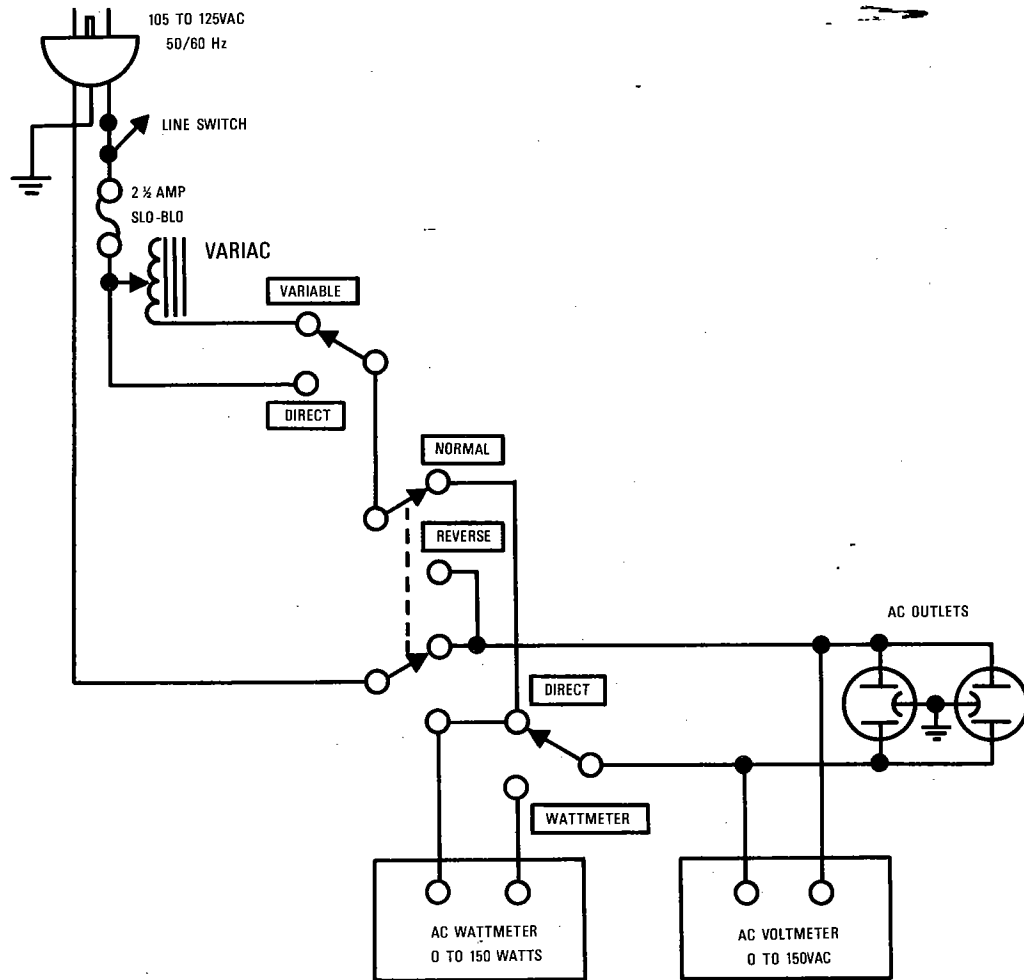
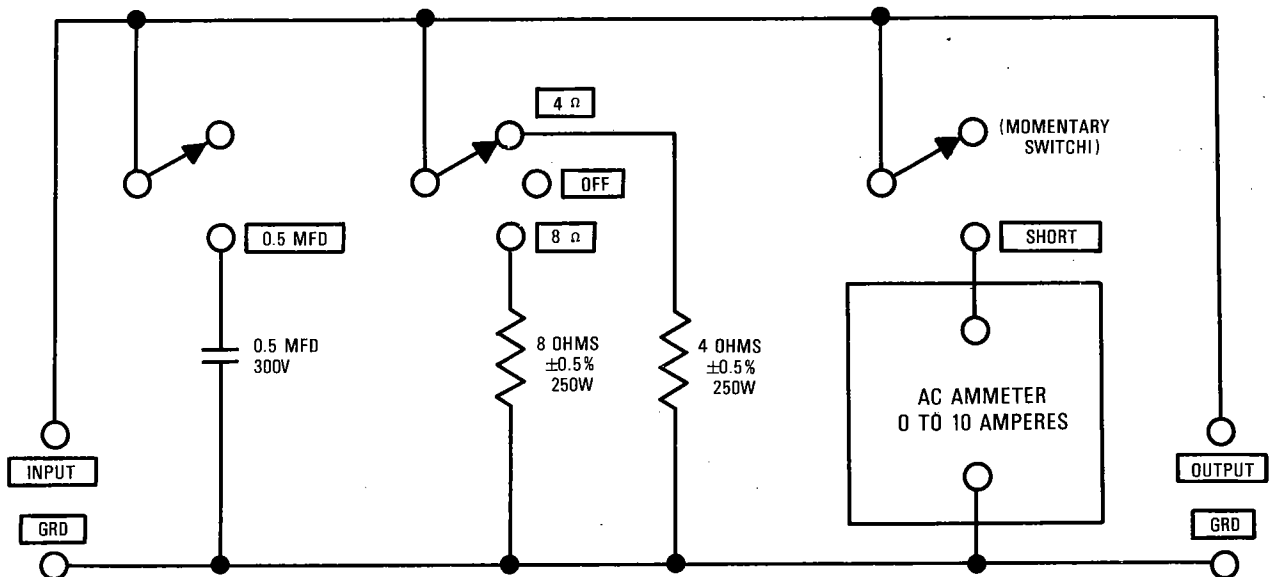

Figure 1. AC Power Control Box Simplified Schematic
Figure 2. Amplifier Output Load Box Simplified Schematic
1. Make the test setup shown in Figure 1 with the instrument controls set in the following positions:
Table 1 lists the test equipment required for servicing the Model 1030 Stereo Console Amplifier. The wattmeter, ac voltmeter, and variac may be assembled as a test fixture as shown schematically in Figure 1, and the load resistors and ac ammeter may be assembled into a second test fixture as shown in Figure 2.